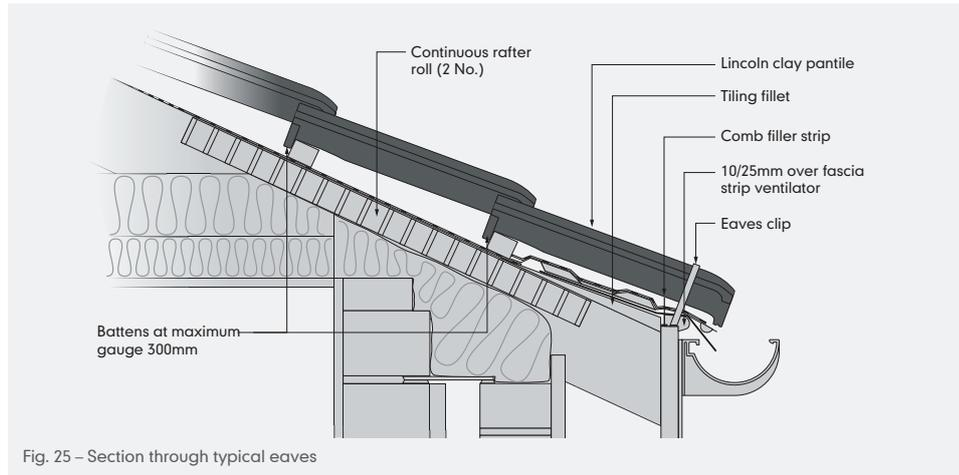

Fig. 25 – Section through typical eaves
- 1 The roof underlay should be laid onto a support tray and set back from exposure. (Fig. 25).